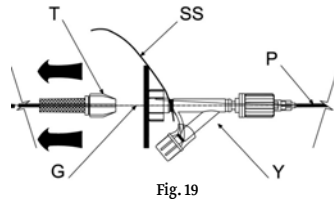

Fig. 19
- Hold firmly with one hand the “Y” connector and with the other pull the torquer at least 30 cm until the release of the device can be seen. Fig. 19 - 21.